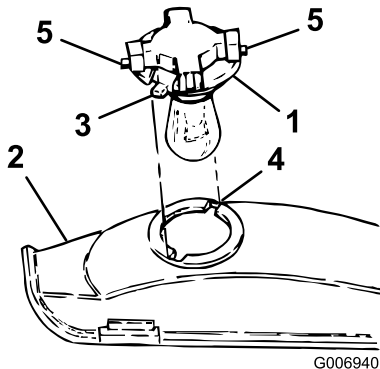

Figure 53
3. Rotate the bulb holder 1/4 turn counterclockwise and remove it from the reflector (Figure 53).
4. Align the tabs on the bulb holder (Figure 53) with the slots in the reflector, insert the bulb holder into the reflector, and rotate it 1/4 turn clockwise until it stops.